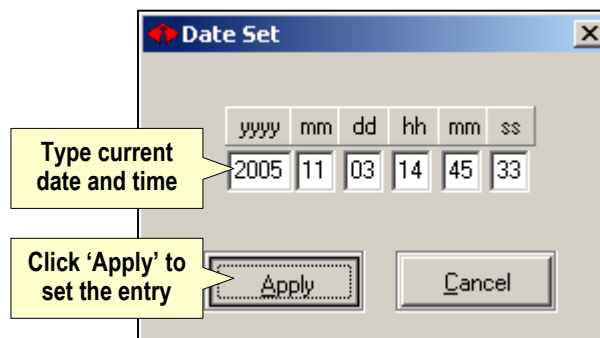

Figure 30 – 'Date Set' screen
*The **Date Set** screen (Figure 30) appears.*